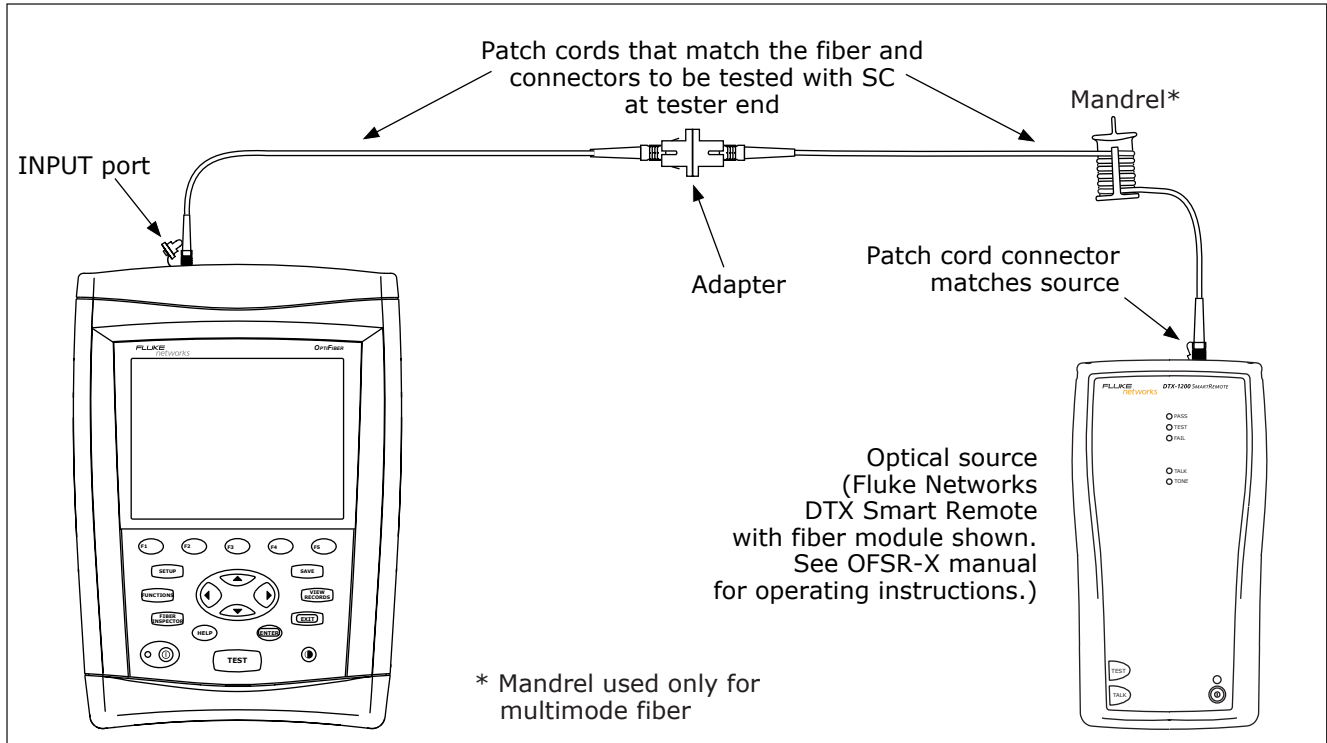

Figure 28. Far End Source Mode Reference Connections
- 7 Press **FUNCTIONS**; then select **Set Loss/Length Reference**. Connect the reference patch cords as shown on the screen and in Figure 28; then press **ENTER**.